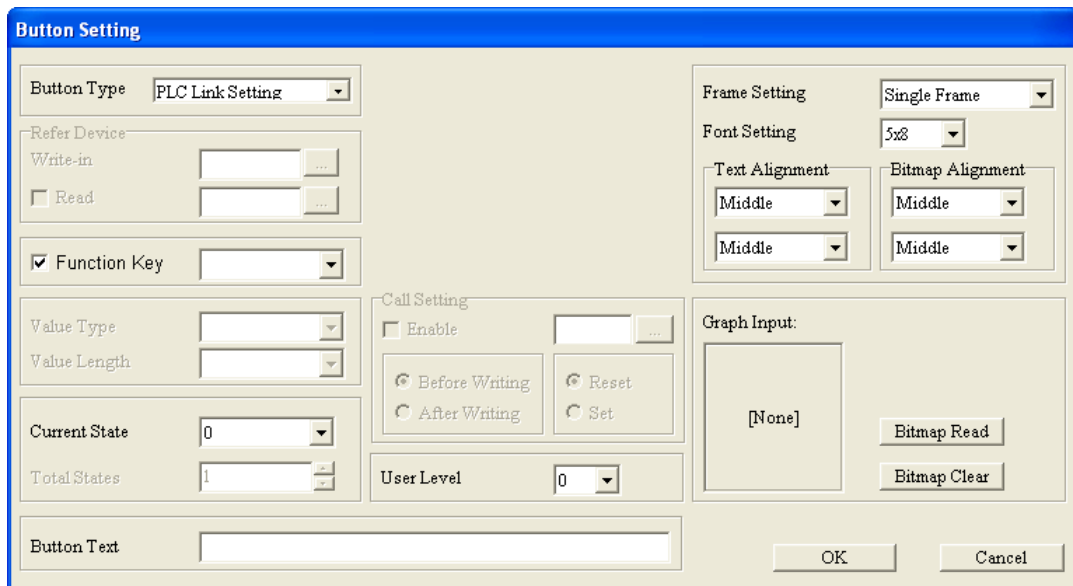

Figure 4-83 Button Setting window
- If **PLC Link Setting** is selected, the **Button Setting** window will be as shown in Figure 4-83.